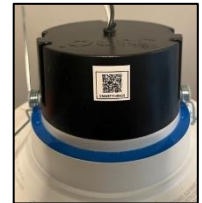

Figure 5
i. Use your smart device’s camera to scan SmartThings QR code on side of device (Figure 5)